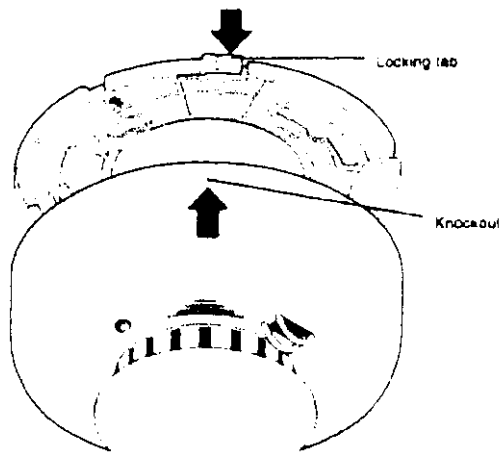

Figure 2
3. If you are using the Base Tamper, break off the locking tab on the mounting base and remove the knockout on the detector as shown in Figure 2.